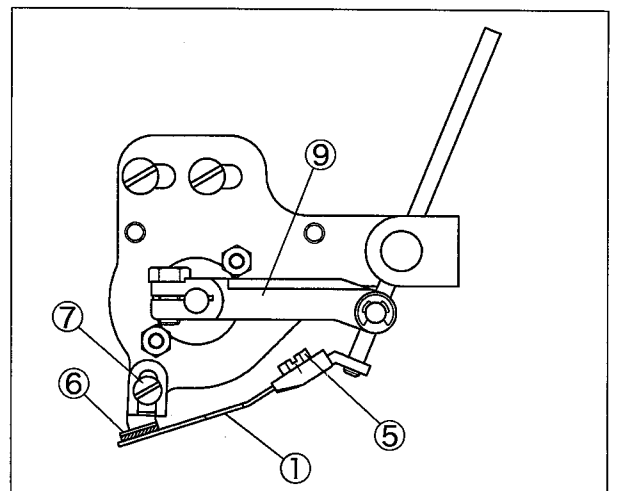

Fig. 33
Loosen the screw ⑦ to hold the needle thread slightly with the thread clamp rubber ⑥ and the wiper ① when the wiper ① returns. (Fig. 33)